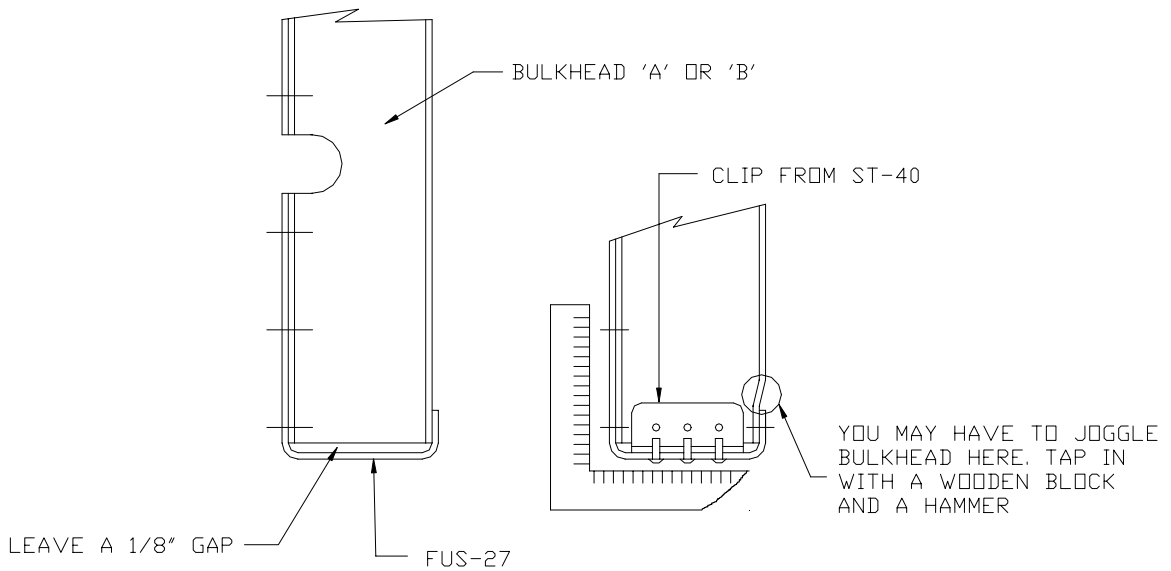
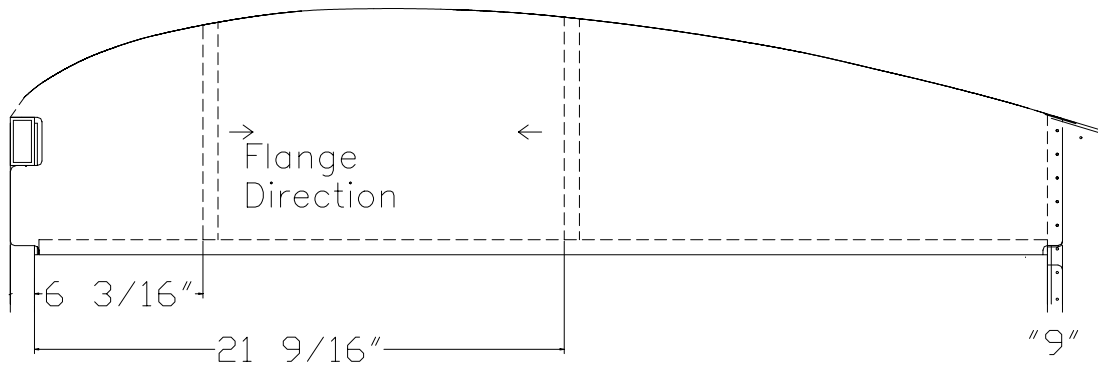

Figure 9.9.5
Figure 9.9.6
- 8) The two R-BULK 1 assemblies (referred to as “A” and “B” in Fig. 9.9.5.) prepared earlier are to be installed between the two FUS-27 root ribs. Figure 9.9.6. The bulkheads must be tied into the FUS-27’s as in Fig 9.9.5.
- 9) Drill #40 rivet lines (nine equally spaced holes allowing for bulkhead cutout) in the FUS-27 root ribs. Fig. 9.9.6.